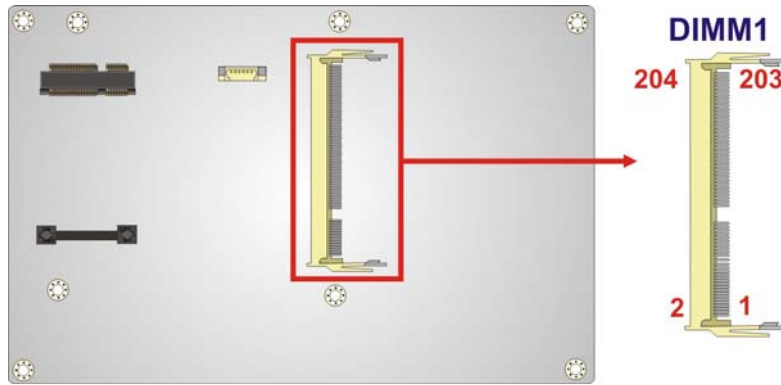

Figure 3-6: DDR3 SO-DIMM Socket Location
- CN Location: See **Figure 3-6**